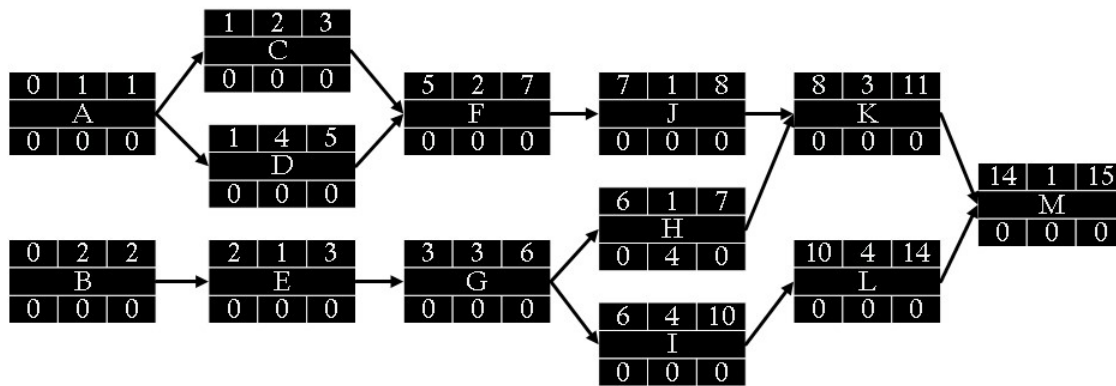

Figure 3.15: Completion of the forward pass
- We add ES to the duration for each activity to find EF. For A, EF is $(0+1) = 1$ week, and for B, it is $(0+2) = 2$ weeks. It means that we can finish A at the end of the first week, and finish B at the end of the second week (Figure 3.15).
- When the forward pass is done, we can generate all ES and EF times for all the activities. The EF of the last activity (M) gives us the overall duration of the project which is 15 weeks (Figure 3.15).